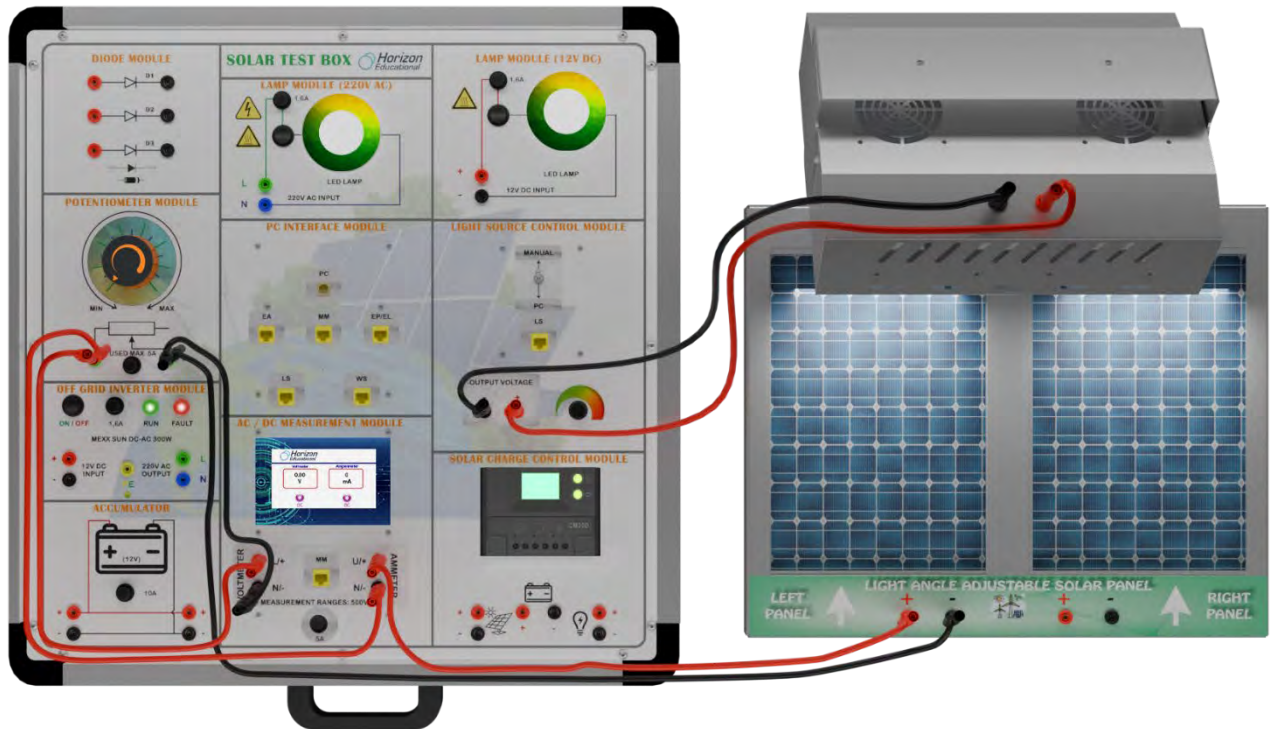

Figure-21. Installation Image of Examination of the Photovoltaic Panel's Loaded Outputs Depending on the Sun's In-Day Movement
1. Set up the connection as specified in Figure-21. Ensure a constant level of light in the laboratory by creating an average scenario. Any alterations to the positions of the lamps or curtains will have an impact on the experimental outcomes.